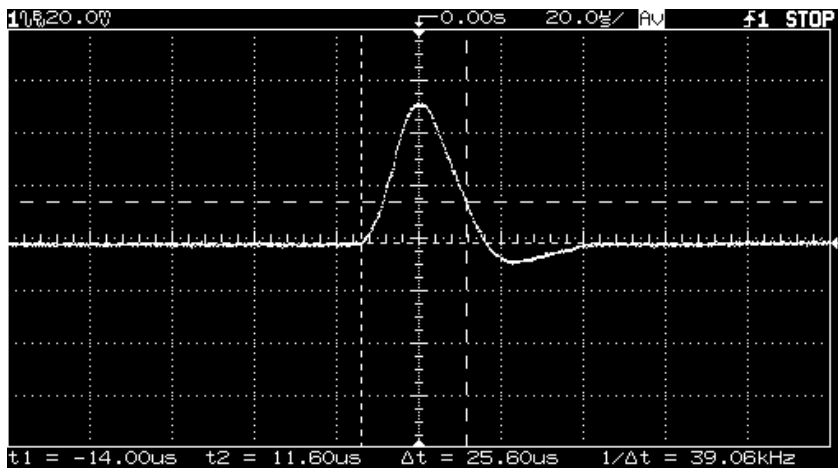

Figure 3-5. Transient Response Time
- 5 Adjust the the oscilloscope to display transients as shown in Figure 3-5. Note that the pulse width (t_2-t_1) of the transients at 15 mV from the base line is no more than 50 μ sec for each of the three outputs.
- 6 Repeat steps (1) through (5) for the remaining outputs.